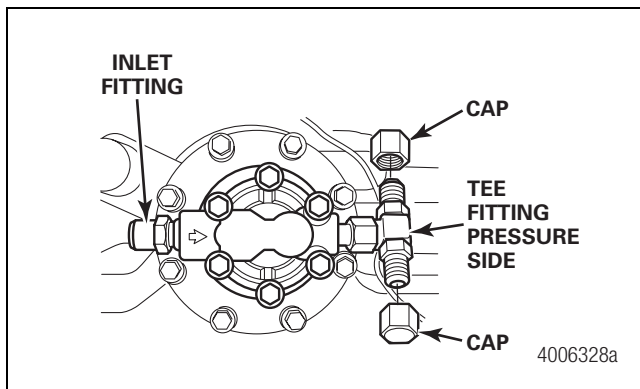

Figure 6.48
1. Prior to connecting the oil cooler line to the tee fitting, remove the tee fitting upper cap and add SAE Grade 50W full-synthetic oil, Meritor specification O-81, to the tee fitting until the tee fitting cavity is completely filled. Figure 6.48.
3. Connect the female fitting to the unused port of the diagnostic tee fitting. Figure 6.48.
4. Connect the female fitting to the unused port of the diagnostic tee fitting. Figure 6.48.